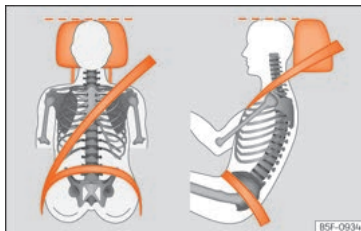

Fig. 89 Correctly adjusted head restraint as viewed from the front and the side.
- Adjust the head restraint so that its upper edge is, as far as possible, at the same level as the top of your head, or at the very least, at eye level »» **Fig. 89.**